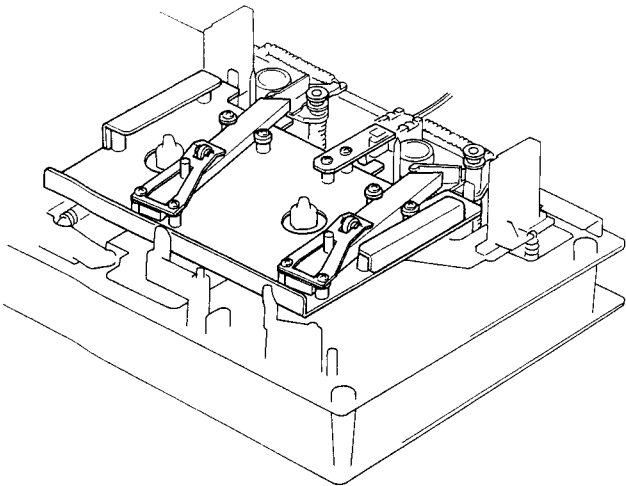

Fig. 4.8
Remove Head Mount Base Ass'y referring to item 2.20. Refer to Figs. 4.8 and 4.9.
(1) Erase Head Stroke Adjustment
(2) Supply Tape Guide Height Check
(3) Take-up Tape Guide Height Check